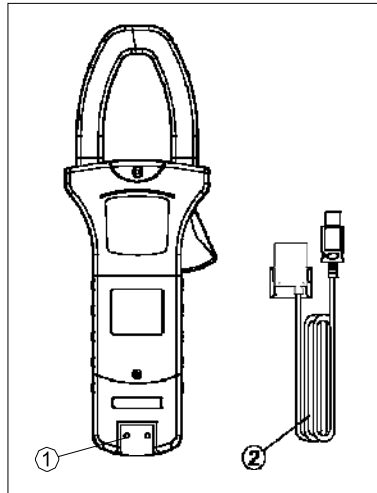

Figure 2
B. The Meter Back and Bottom Structure (see figure 2)